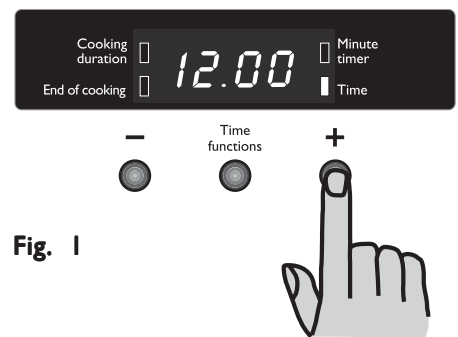

Fig. 1
1. Press button "+" or "–" (Fig. 1).